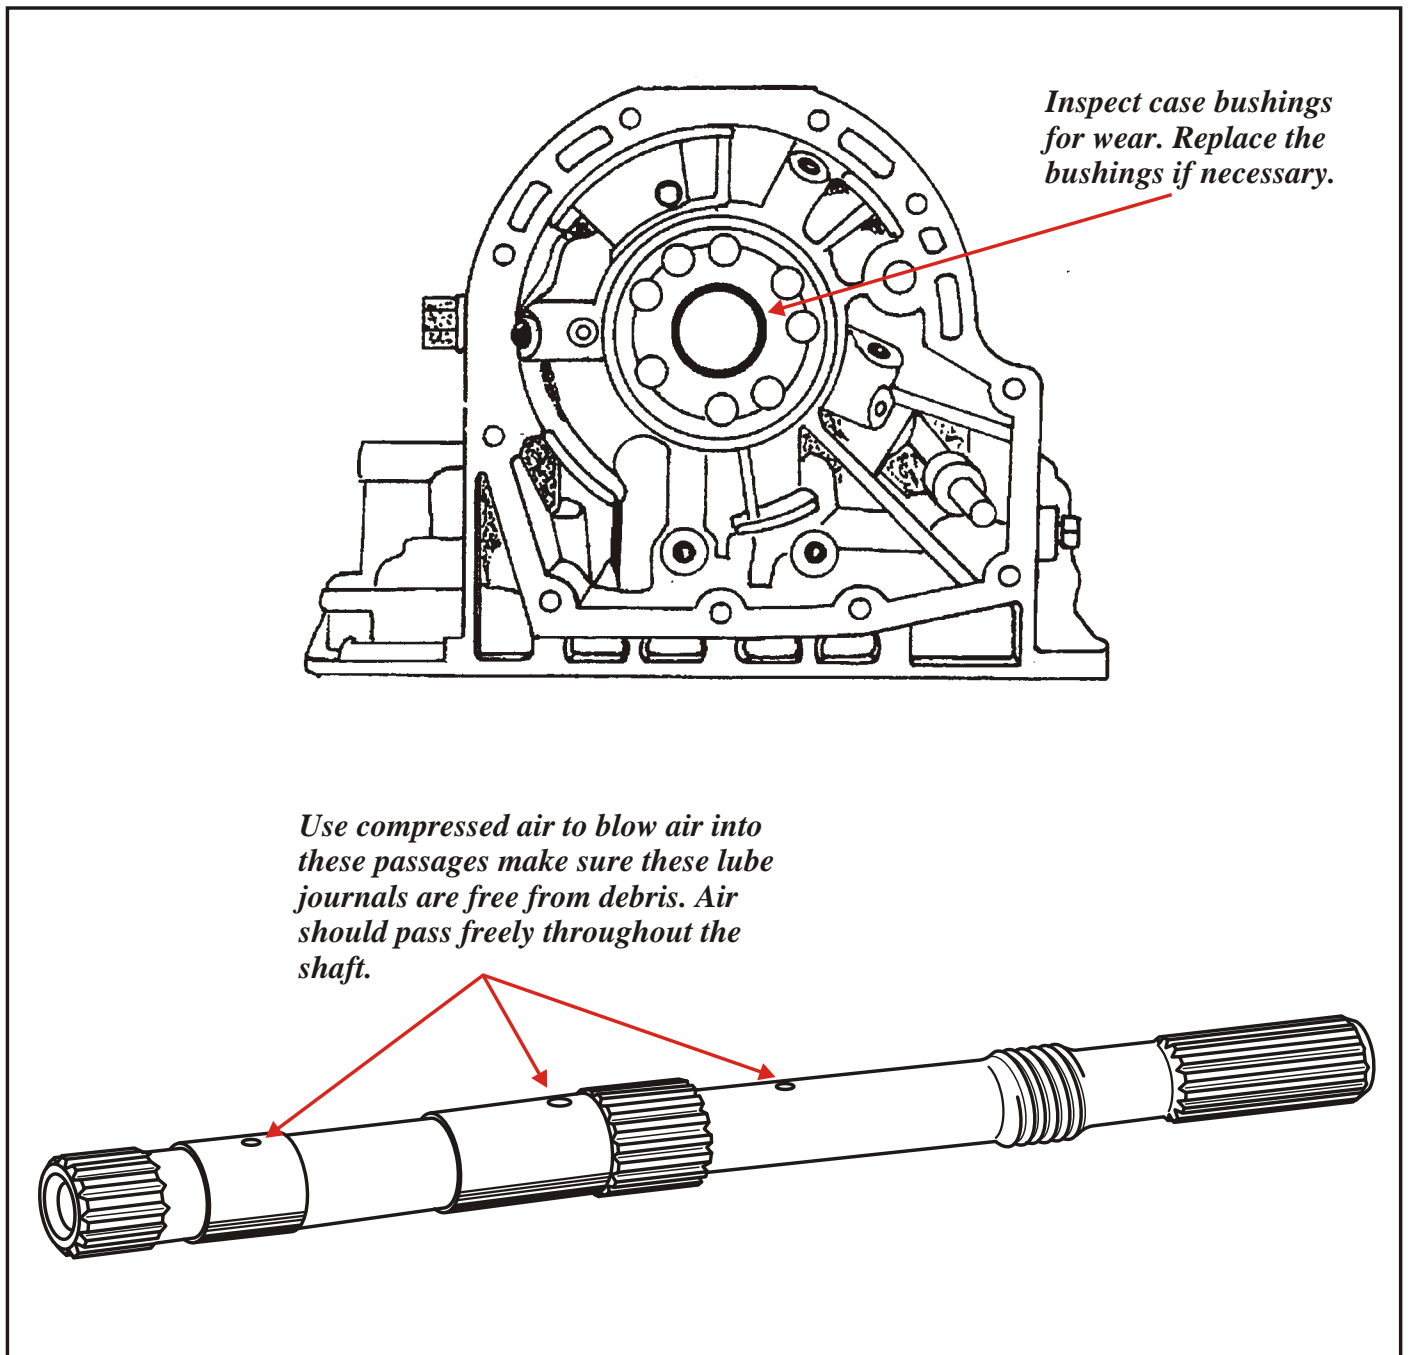

Figure 2
2. Inspect the case bushings in the back of the case for wear (Refer to Figure 2). If needed insert the output shaft into the case and check for excessive play from side to side. If side to side movement is excessive replace the case bushings. Using compressed air and a blow gun, direct air pressure into the different lube holes in the output shaft and make sure there is no debris blocking the holes and that air passes through the holes freely.